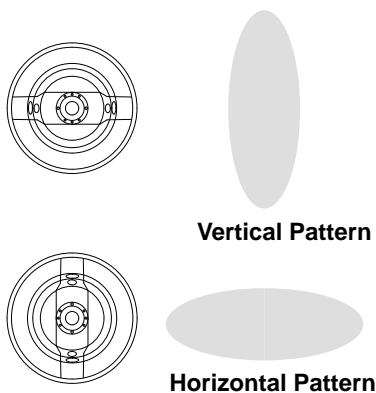

Fig. 11
5. Position the Air Cap for a vertical or horizontal spray pattern. See Fig. 11.